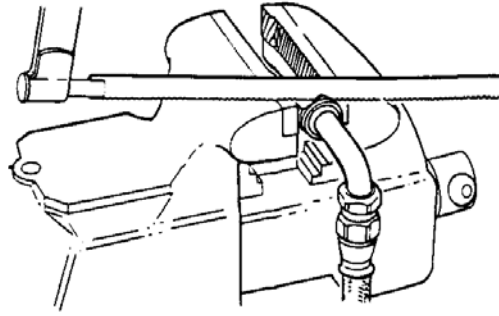

Figure 9: Removing nut from fitting
- a. Cut nut down to retaining wire as shown in **Figure 9**.